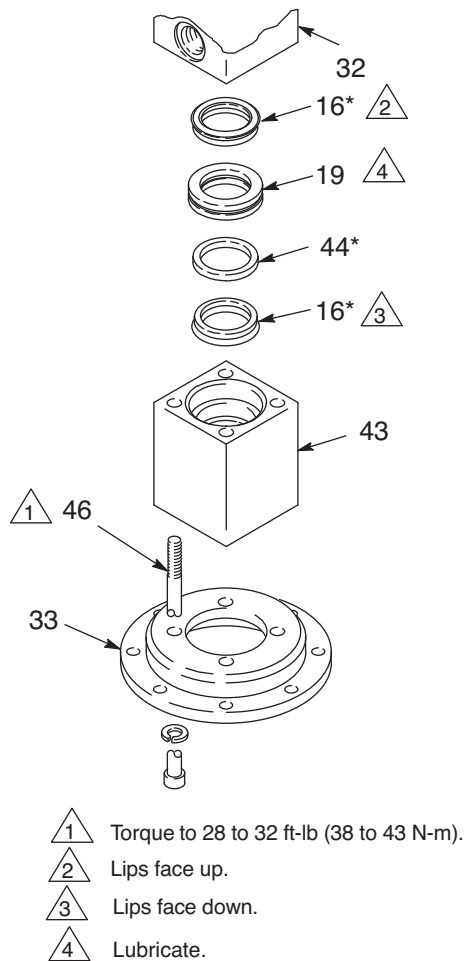

FIG. 5
Refer to FIG. 5 for the following instructions.
3. Remove the four capscrews (46) from the bottom of the adapter (43). Tap the adapter to loosen it, and pull it off the bottom cap (32).
4. Remove the seals (16, 44) and guide (19) from the top of the adapter (43).
5. Lubricate the guide (19) and install the seals and guide in the adapter (43) one at a time in the order shown in FIG. 5.
6. Reassemble. Torque the capscrews (46) to 28 to 32 ft-lbs (38 to 43 N.m). Install the displacement pump. Follow Step 24, page 18.